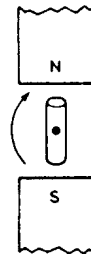

Figure 14.15
- In Fig. 14.15, at the instant shown, the generated e.m.f. will be: